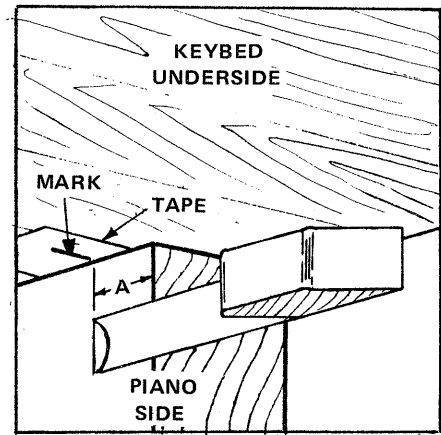

FIGURE 1-3 Measure dimension A and mark the tape.
Place a small piece of tape on the underside of the Keybed near the RIGHT side of the piano. Refer to STEP 1-3 on the Check List and, using the measurement (A) written there, measure in from the FRONT edge of the Piano's side and mark the tape as shown in FIGURE 1-3 (dimension A).